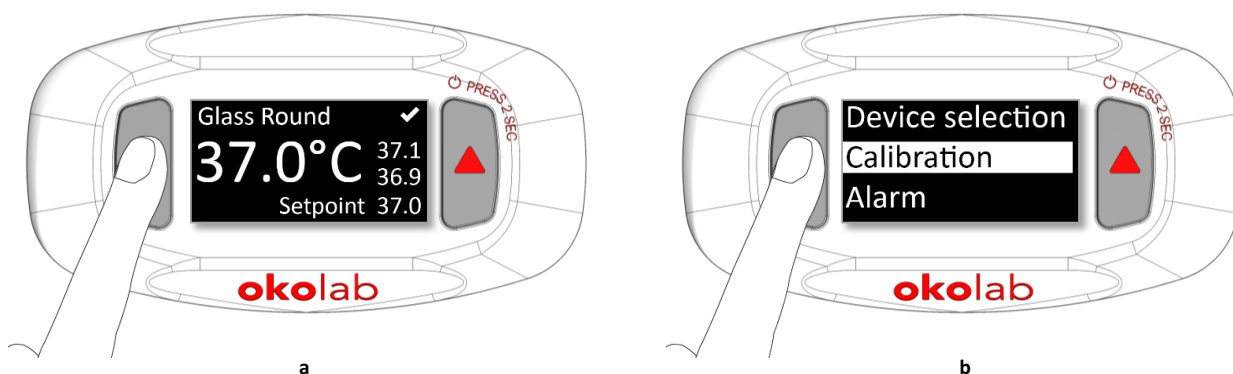

Figure 21. How to enter the Calibration Submenu.
7. Press DOWN button for 2 seconds to access the *Menu* page (see Figure 21 a) and use the DOWN button to select the *Calibration* page (see Figure 21 b).